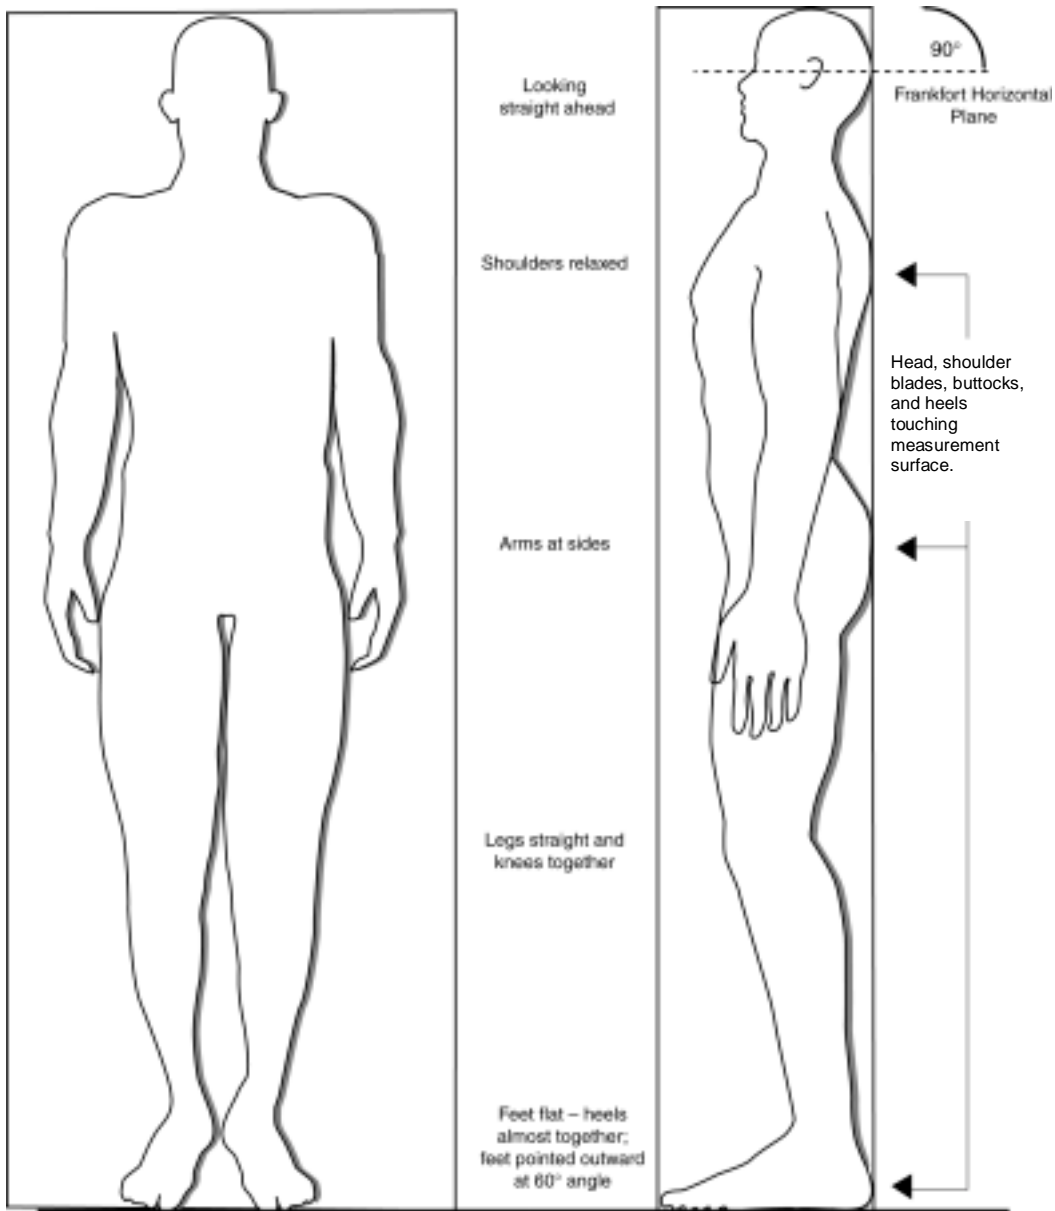

Figure 3-1. Correct body placement for height measurement
4. Ask the SP to evenly distribute weight on both feet. The heels are placed together with the feet pointed slightly outward at a 60 degree angle. The arms hang freely by the sides of the trunk with palms facing the thighs. (See Figure 3-1.)